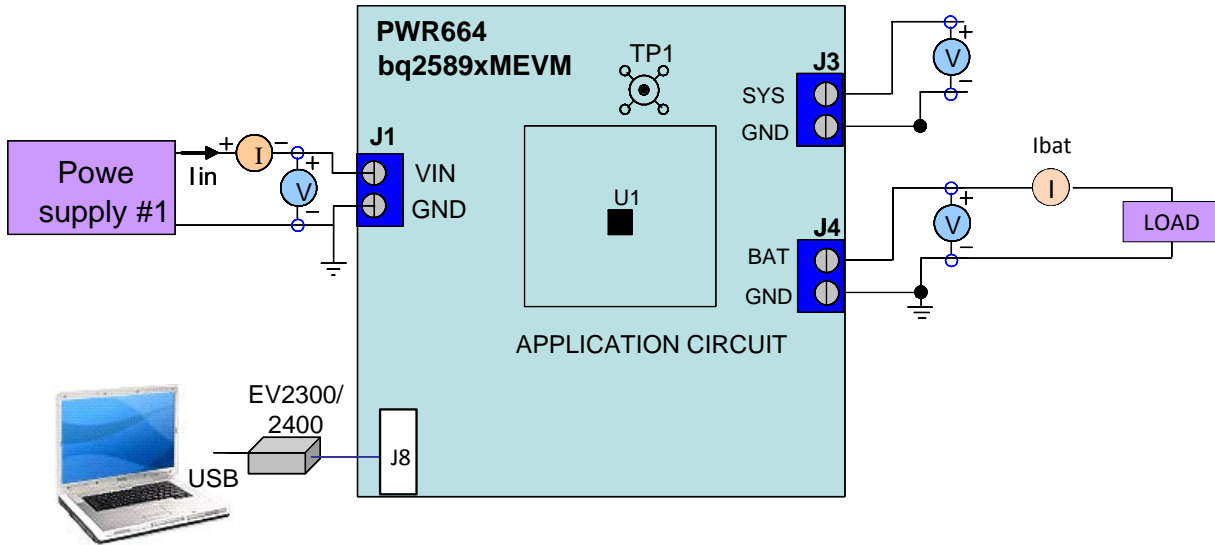

Figure 2. Original Test Setup for TIDA-00589 (PWR664 - bq2589x EVM)
4. Turn on the Load, set to constant voltage mode and output to 2.5 V. Turn off (disable) Load. Connect Load in series with a current meter (multimeter), ground side, to J4 (BAT+ and GND) as shown in Figure 2.